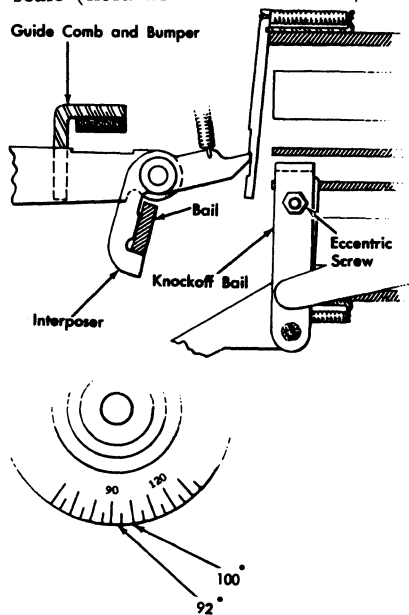

Figure 49. Interposer Relatching Adjustment
1. Install magnet unit with reasonable unlatching clearance as a preliminary step. Make screws friction-tight and restore all but four interposers across unit. While manually rotating index clockwise, position magnet unit so that the unlatched interposers in their downward motion start to enter their armature notches at 92° and all are in the notches by 100°. Space interposer movement varies from that of the other interposers, but it should be in its armature notch no later than 100° (Figure 49).
3. Adjust eccentric screw on knockoff bail (Figure 49) to cause bail to meet an attracted armature at both ends of unit between 13° and 20°. If the eccentricity is insufficient, inspect cam follower for wear. It may be necessary to pivot entire magnet unit about armature latching point to bring bail closer to armatures.